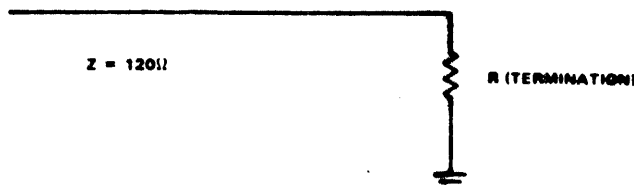

Figure 3. Cable Impedance Example
A lossless transmission line of infinite length looks like a pure resistance of value $Z = L/C$. If such a line is broken and terminated with a resistor of this value ($R = Z$), the line will behave like an infinitely long line; i.e., appear resistive (see Figure 3). The impedance (Z) of LSI-11 bus cable is approximately 120 ohms.